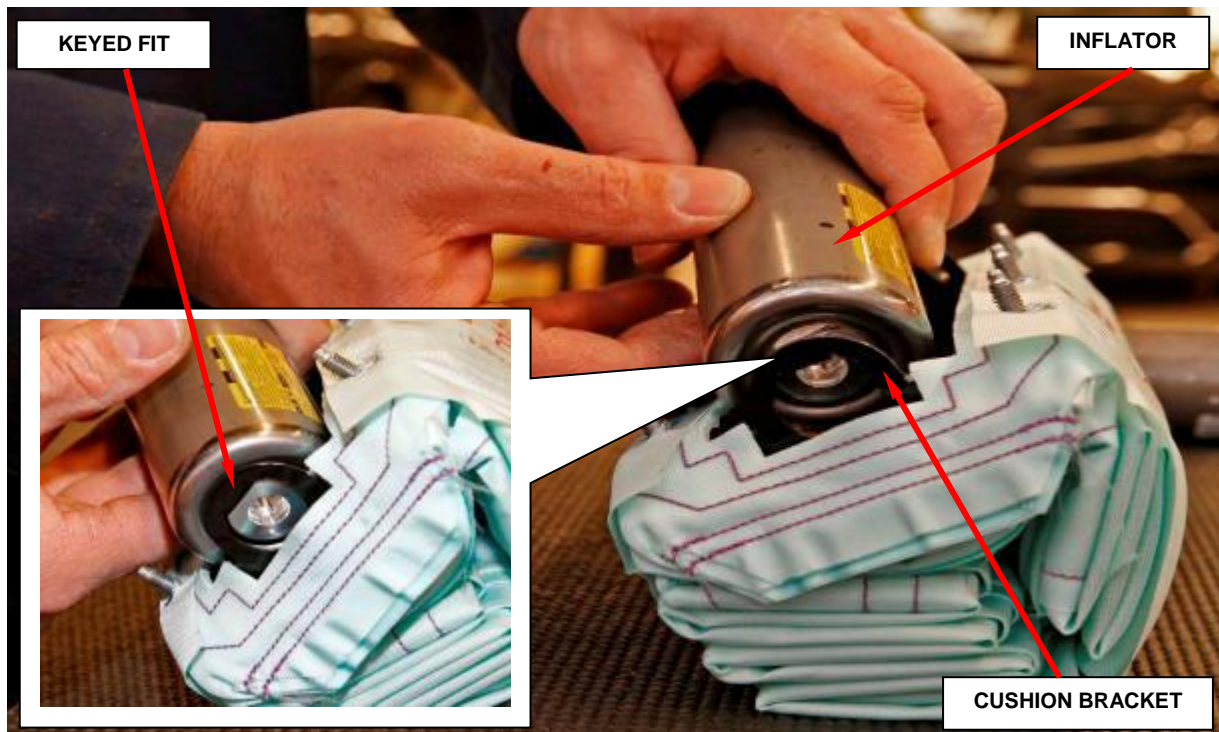

Figure 23 – Inflator Keyed End
- g. Install the new inflator to the cushion, keyed end first (Figure 23).
NOTE: The inflator is keyed to fit into the cushion bracket (Figure 23).